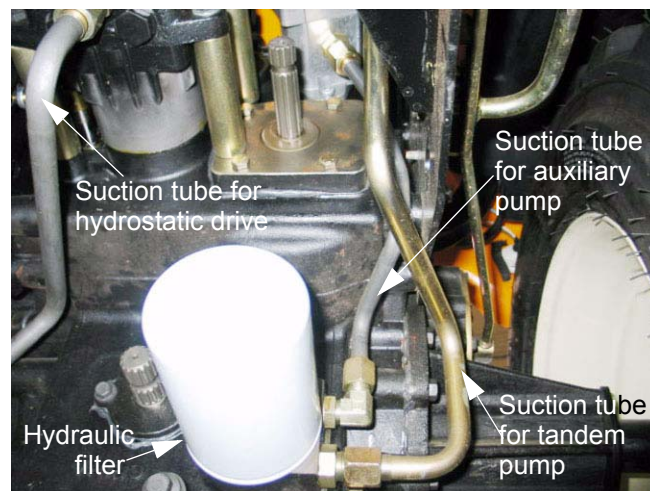

Figure 6.6
- 6.6. The filter and suction tubes are easily reached for inspection with little or no disassembly. See Figure 6.6.